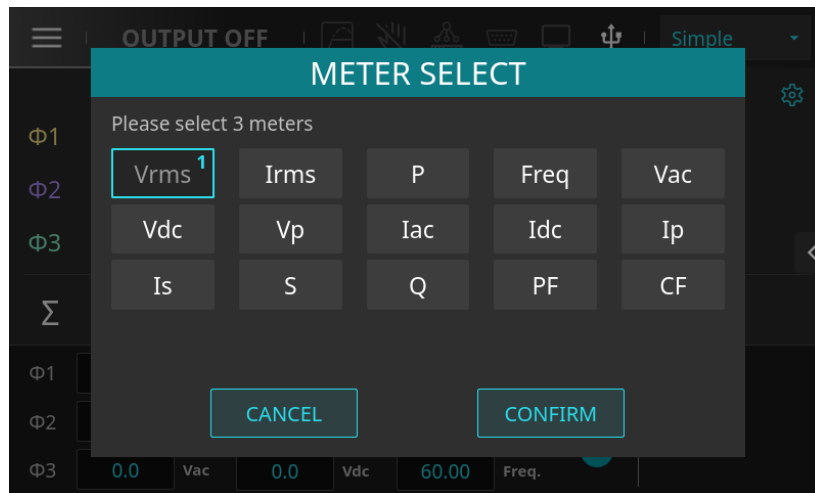

Figure 4-11: Page for deselecting measurement parameters “Irms” and “P”
2. Select the parameters you want to replace, such as “I_{rms}” and “P”, as shown in Figure 4-11.